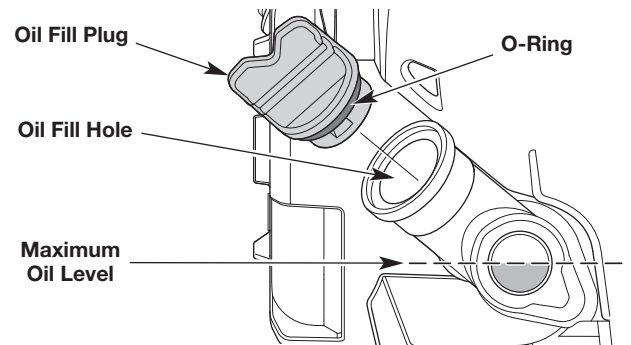

Fig. 21
3. Look into the oil level window; use a flashlight if necessary. **The oil level should fill the window approximately halfway** (Fig. 21). If the oil level is too low, add oil. Refer to *Adding Oil*.
1. Clean the area around the oil fill plug (Fig. 21) to prevent debris from entering the oil fill hole.
3. Add oil to the oil fill hole until the oil level is approximately halfway up the oil level window (Fig. 21).
**NOTE:** Make sure the O-ring is in place on the oil fill plug (Fig. 21).